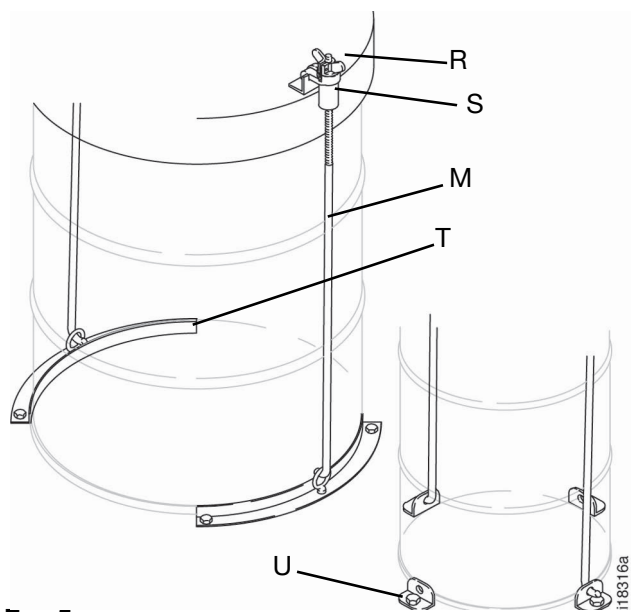

FIG. 5
2. Place the hold-down lugs (V) or drum locators (U) around the drum base and bolt directly to the truck bed or mounting platform (see FIG. 5).
3. Install shim (4) (if applicable for your model) on drum cover.
5. Align the drum cover eyelets (Q) with the hold down rods (T), install the cover brackets (S) and wing nuts (R) and tighten securely (see FIG. 5).
1. Insert the pump riser tube through the gasket (W) and drum cover (X). Fasten the Fire-Ball pump from the top side and the Fire-Ball pump from the bottom side.
2. Slide the rubber grommet (Y) tapered end down, onto the riser tube and push it up against the pump base.
3. Guide the pump riser tube through the drum bung hole (Z) and place the cover on the drum.
4. Align the drum cover eyelets (Q) with the hold down rods (T), install the cover brackets (S) and wing nuts (R) and tighten securely (see FIG. 5).